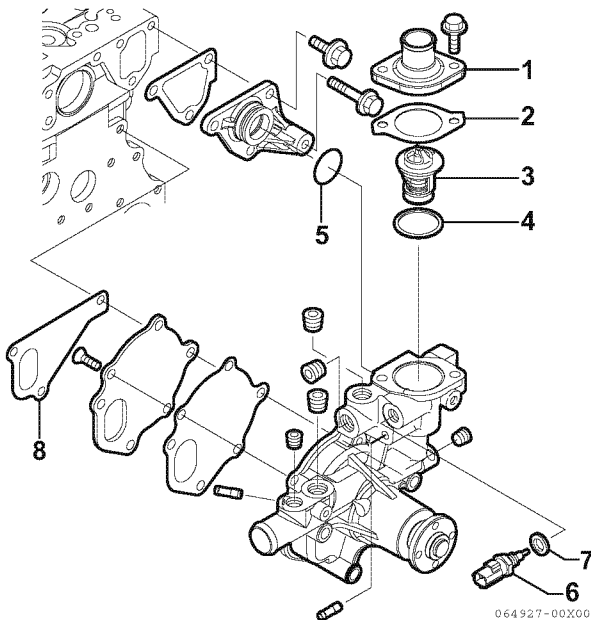

Figure 8-12
1. Reinstall the thermostat (3, **Figure 8-12**) and a new gasket (4, **Figure 8-12**).
2. Reinstall the thermostat cover (1, **Figure 8-12**) and a new gasket (2, **Figure 8-12**). Tighten the thermostat cover bolts.
3. Reinstall the engine coolant temperature sensor (6, **Figure 8-12**) and the new seal washer (7, **Figure 8-12**).
1. Position the engine coolant pump on the engine and install a new packing (8, **Figure 8-12**). Install a new exclusive O-ring (5, **Figure 8-12**) for the part where the engine coolant pump is attached to the cylinder block.